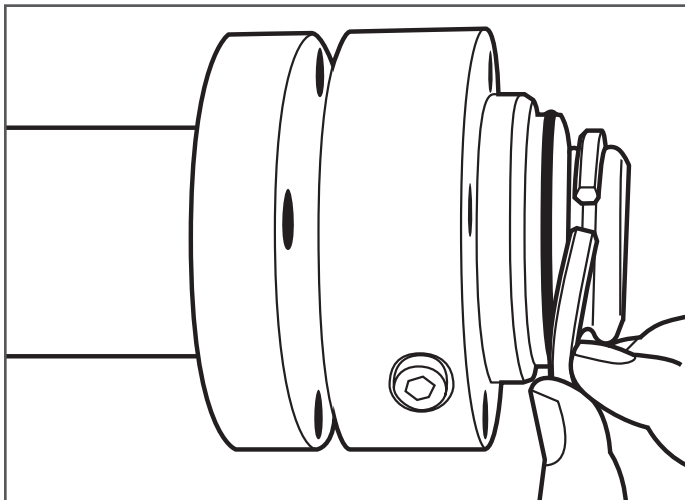

Figure 7-19
20. Slide the back and middle section of the fitting onto the pipe and insert the split rings into the valley of the first corrugation closest to middle section of the fitting (Figure 7-19).